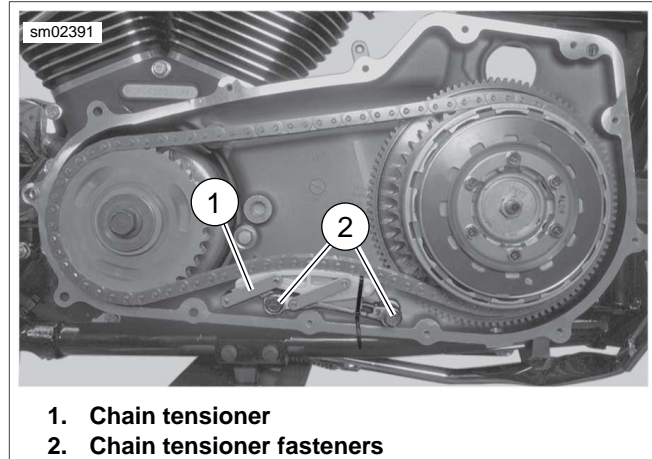

Figure 5-4. Chain Tensioner
2. See Figure 5-4. Remove chain tensioner fasteners (2) then remove chain tensioner (1).